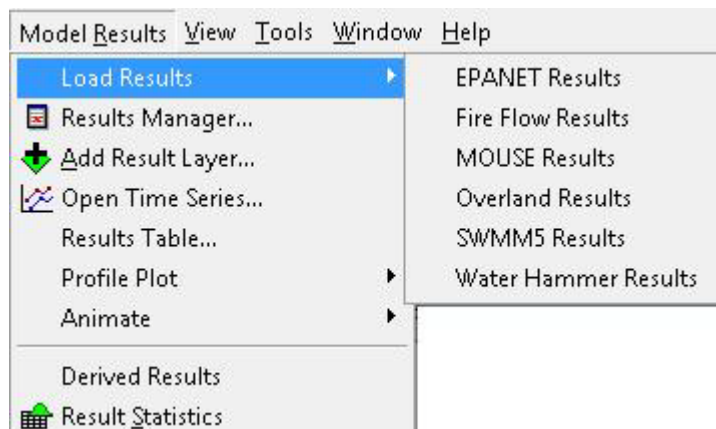

Figure 23.1 Loading model results
- Go to Model Results|Load Results| ... and choose you result file - see Figure 23.1